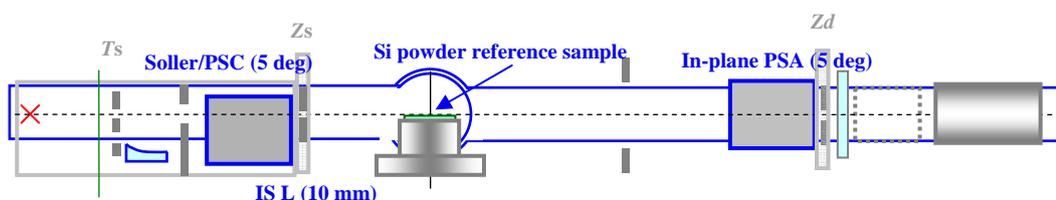

Fig. 2.1 Installation of manual exchange slits
- (1) Insert the Si powder reference sample into the height reference sample plate as instructed by the message. Set the incident parallel slit (Soller/DSC), the incident length limiting slit (IS L), and the receiving parallel slit (In-plane PSA) as shown in Fig. 2.1.